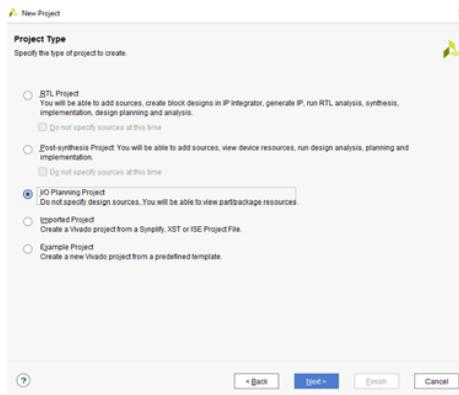

Figure 5: Project Type
- Choose “I/O Planning Project” (Figure 5), then click Next: